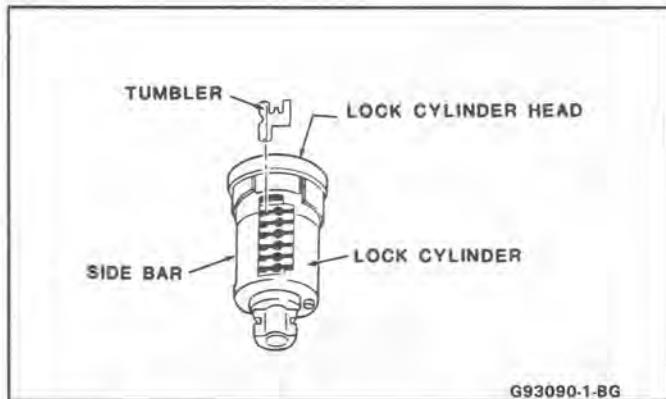

Fig. 2 - Installing Tumblers
### Assemble (Figs. 2 and 3)
2. Starting with position one (open end or head of cylinder), insert tumblers in their proper slots in the order called for by the code (Fig. 2).